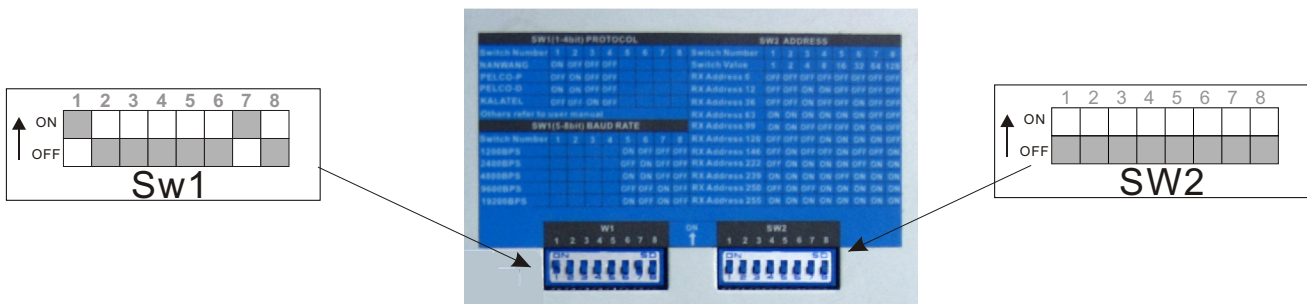

Figure 2 Default settings for the DIP switches
1.The dome camera can be controlled via various communication protocols by setting SW1 switches(1, 2, 3,and 4) and operate at 1200bps, 2400bps,4800bps,9600bps and 19200bps baud rate by setting SW1 switches(5, 6, 7, and 8). Refer to Table B for communication protocol and baud rate settings, pay attention not to set the switches to reserved position. Figure 2 shows the default settings for the DIP switches.